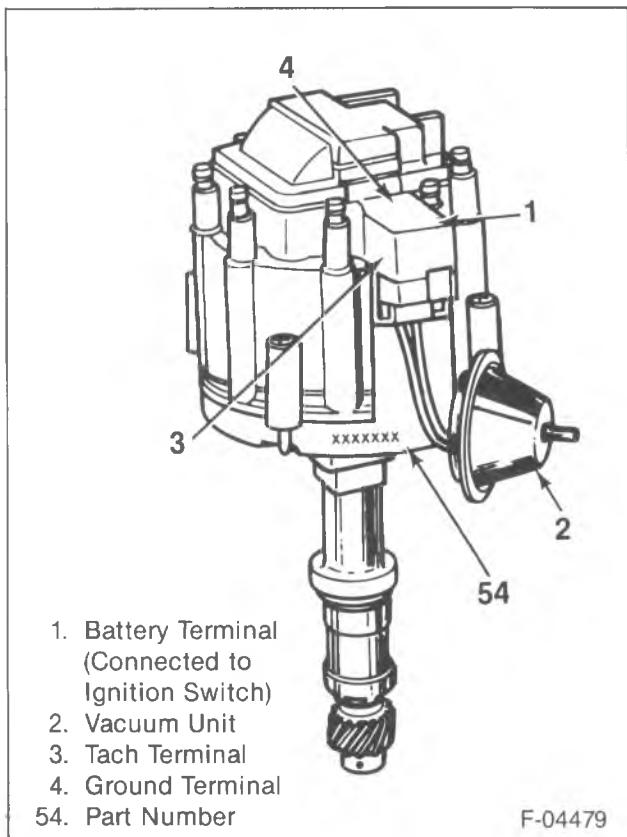
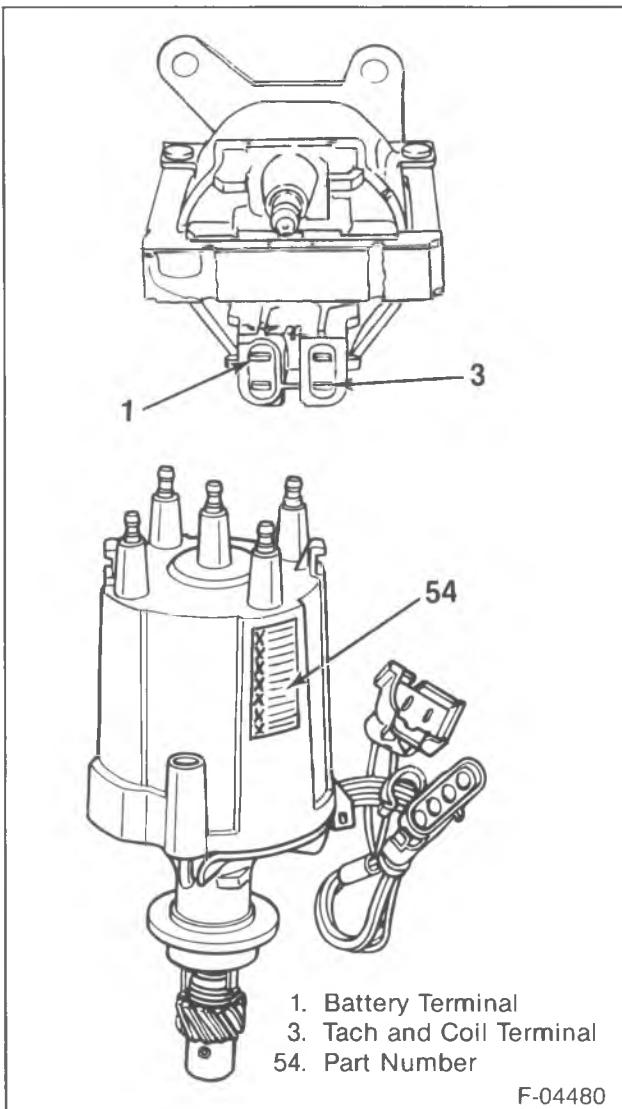

Figure 55—Distributor with Integral Coil
Figure 56—Distributor with Separate Coil
This distributor is a magnetic pulse triggered, transistor controlled, inductive discharge distributor (figures 55 through 58). The magnetic pickup assembly located inside the distributor contains a permanent magnet, a pole piece with internal teeth, and a pickup coil. When the teeth of the timer core rotating inside the pole piece line up with the teeth of the pole piece, an induced voltage in the pickup coil signals the electronic module to trigger the coil primary circuit. The primary current decreases and a high voltage of up to 35,000 volts is induced in the ignition coil secondary winding which is directed through the rotor and secondary leads to fire the spark plugs. The capacitor in the distributor is for radio noise suppression.
On a distributor with an integral coil, the part number (seven digits) is stamped on the distributor housing (figure 55). On a distributor with a separate coil, it is located on a label on the distributor cap (figure 56).
1. Wiring harness connector from the ignition coil terminal connector (figure 55).